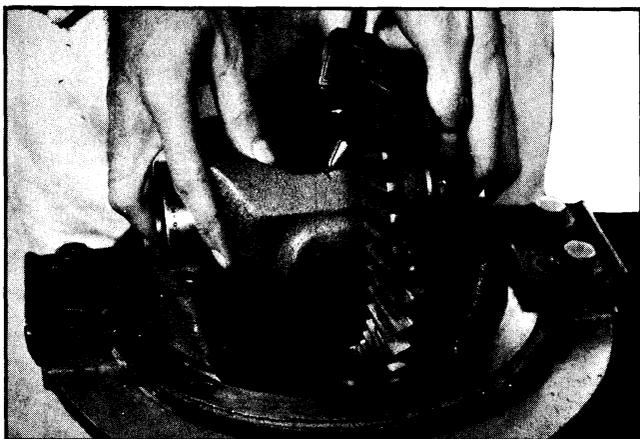

Fig. 6-15 Removing Differential Case
10. Place one or two fingers in the differential case hub (holding the side bearing outer races against rollers) and lift the case assembly from carrier. (See Fig. 6-15)